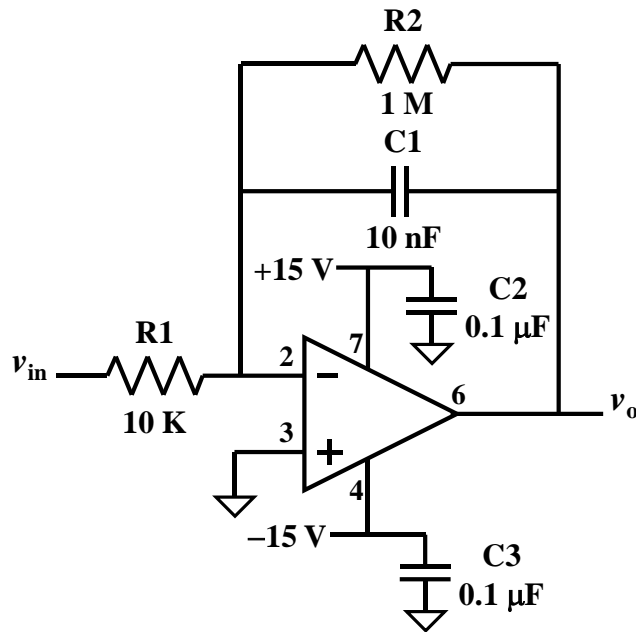

Fig. 5. Practical integrator circuit for procedure step 3.
3. In the first part of this procedure you will observe the inverting integrator’s response to different types of input waveforms. In the second part you will see how it responds as a sine wave input’s amplitude and frequency are changed. Construct the practical inverting integrator circuit in Fig. 5 as follows.